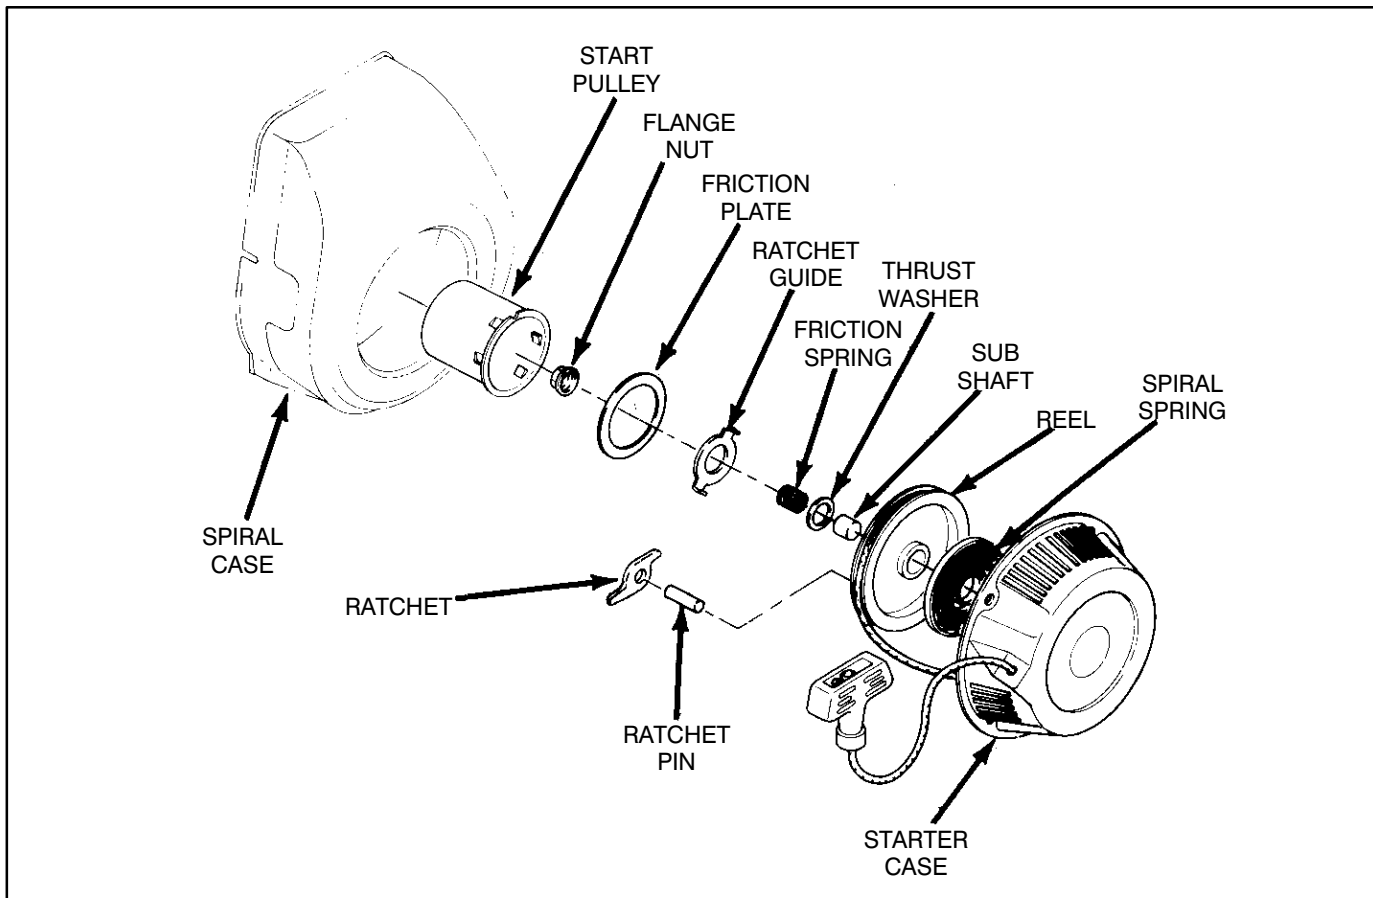

FIGURE 6-14. TYPICAL RECOIL STARTER ASSEMBLY
1. Remove the recoil starter assembly from the spiral case (Figure 6-14) and check operation. If the recoil starter operates properly and the engine was difficult to turn over, the problem could be in the Engine Block Assembly (see engine manuals).
5. Remove the friction plate mounting nut, friction plate, ratchet guide, ratchet, and friction spring (Figure 6-14).
4. With the reel and spiral spring in alignment with the starter shaft, install the reel. Install the friction spring, ratchet guide, ratchet, friction plate and mounting nut on the starter shaft. Secure clutch plate mounting nut (Figure 6-14).